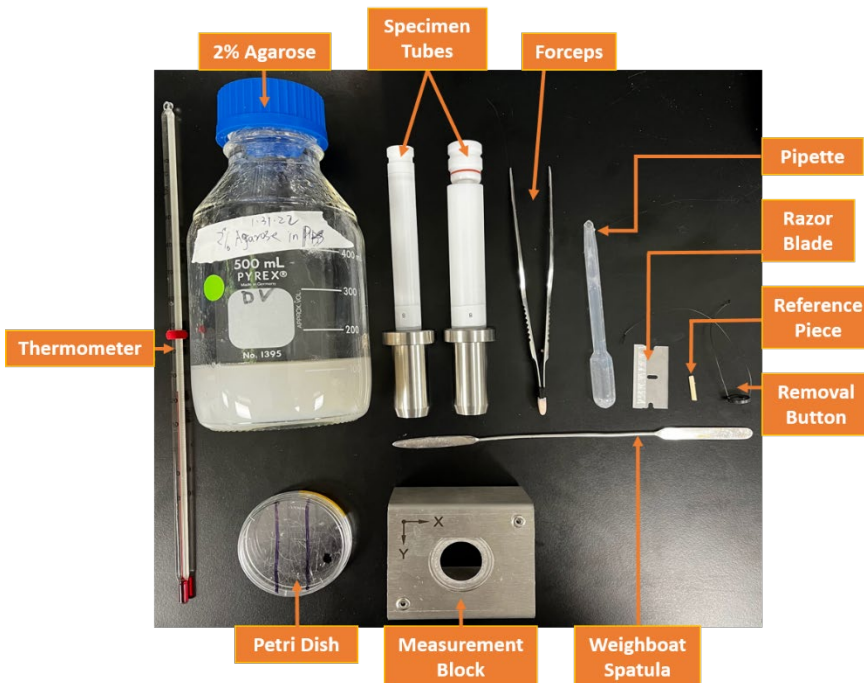

Figure 1: Image of all the necessary materials for proper use of the microCT 50.
- Pusher Rod (Not displayed in Figure 1)